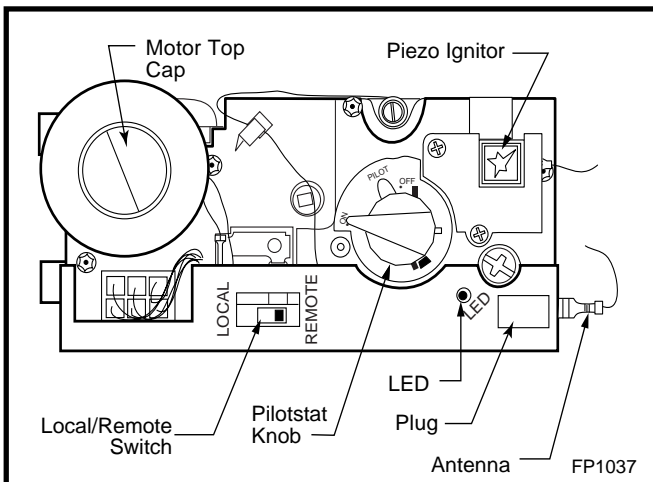

Fig. 53 Comfort control valve.
1. If the manual switch is in remote position, switch it to LOCAL. (Fig. 53)